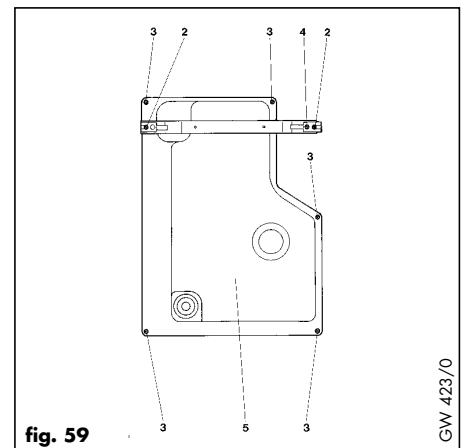

fig. 59
- Remove screws (3, fig. 58) and slacken screws (2, fig. 59).
7.1.5 Removal of combustion chamber cover (fig. 59).
- Slacken the 2 case retaining screws (2).
- Undo the 5 captive inner casing screws (3).
- Remove screw (4).
- Lift combustion chamber cover (5) off boiler.